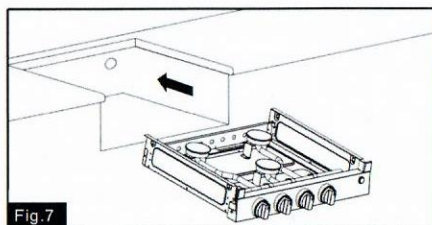

Fig.7
3. Slide the cooktop into the cabinet opening. Verify the cooktop is level from side to side and front to rear. (Figure 7)